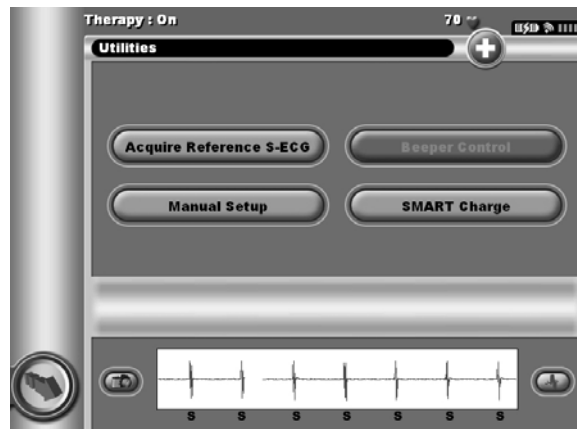

Figure 45: Utilities screen
2. Select the Utilities button. The Utilities screen appears (Figure 45).